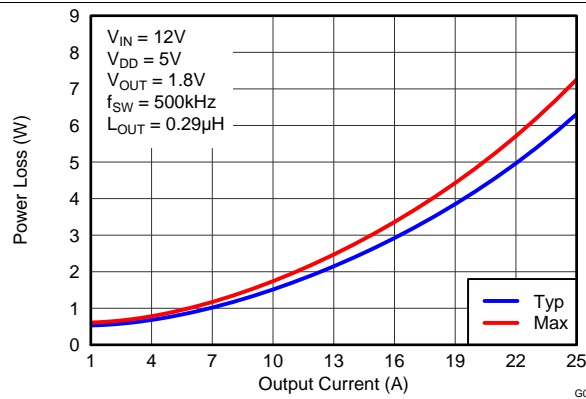
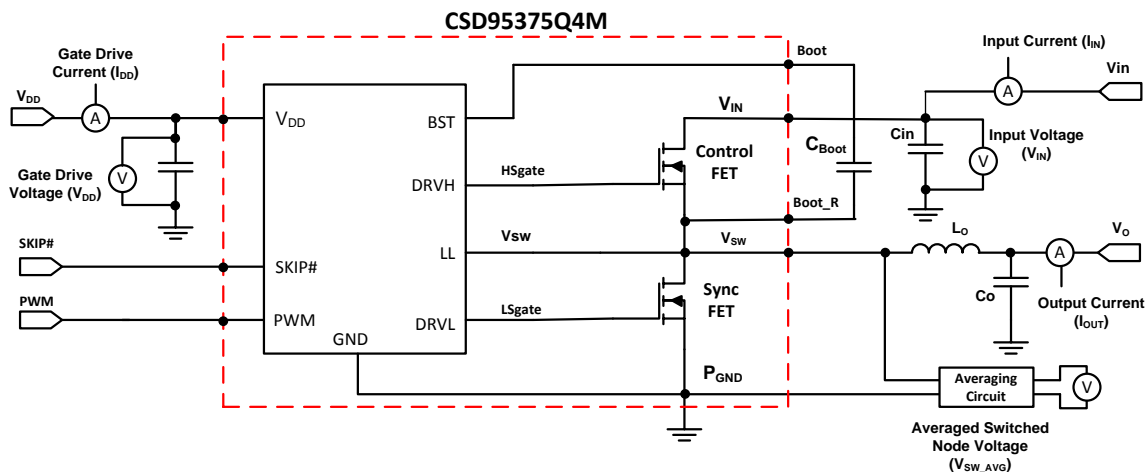

Figure 2. Power Loss vs Output Current
Figure 14. Power Loss Test Circuit
MOSFET centric parameters such as $R_{DS(ON)}$ and Q_{gd} are primarily needed by engineers to estimate the loss generated by the devices. In an effort to simplify the design process for engineers, Texas Instruments has provided measured power loss performance curves. Figure 2 plots the power loss of the CSD95375Q4M as a function of load current. This curve is measured by configuring and running the CSD95375Q4M as it would be in the final application (see Figure 14). The measured power loss is the CSD95375Q4M device power loss which consists of both input conversion loss and gate drive loss. Equation 1 is used to generate the power loss curve.
The power loss curve in Figure 2 is measured at the maximum recommended junction temperature of $T_J = 125^\circ\text{C}$ under isothermal test conditions.
- Typical Power Loss at 10 A = 1.5 W (Figure 2)